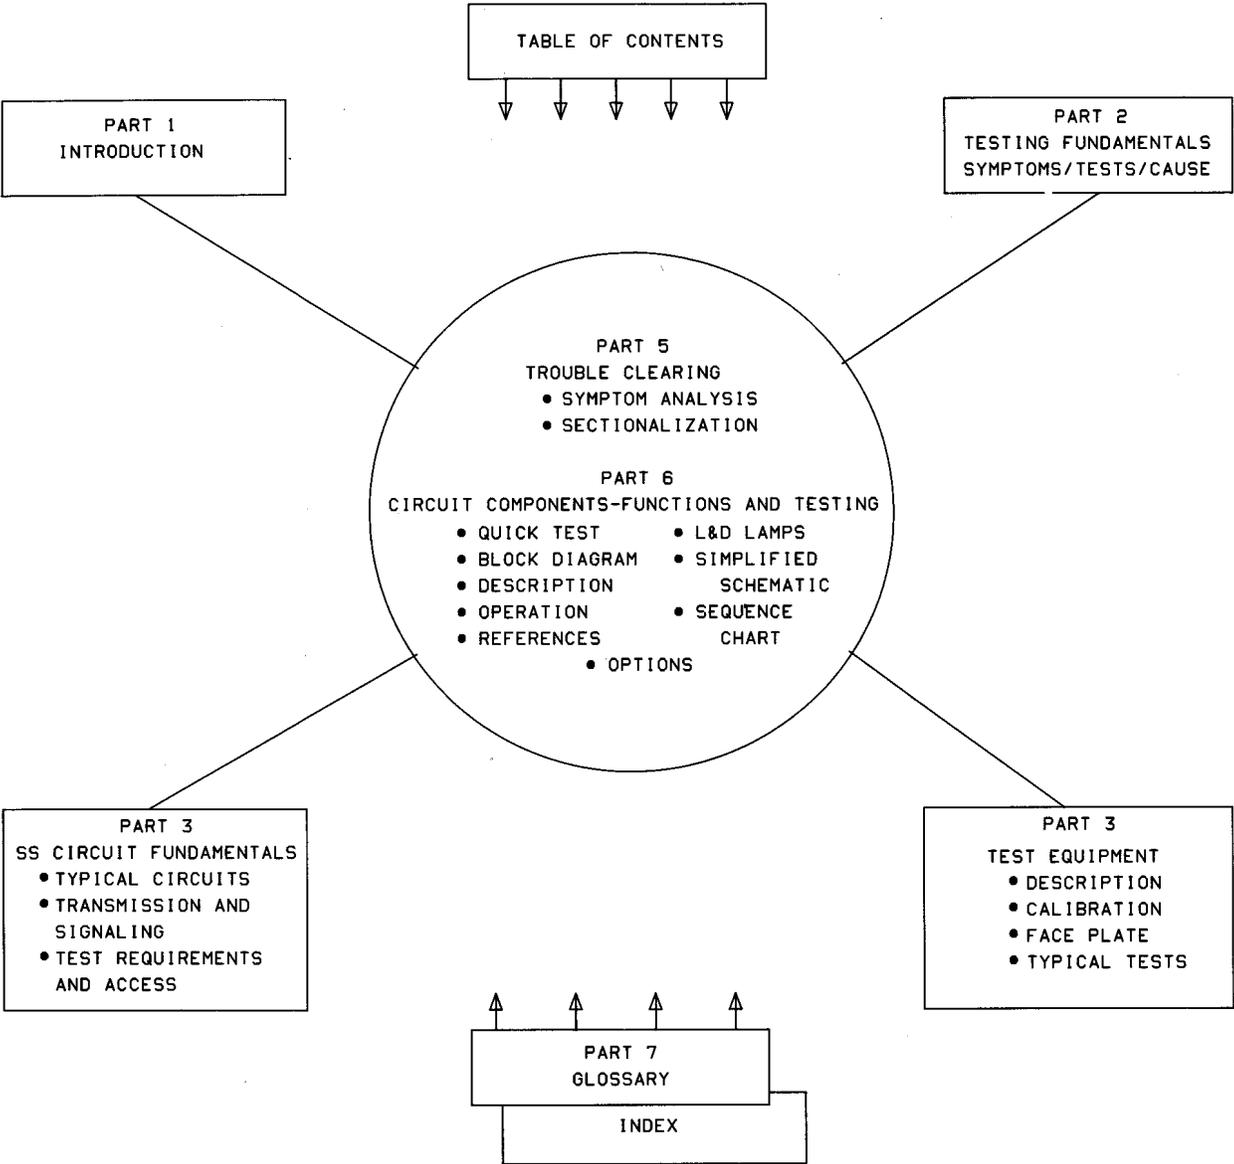

Fig. 1-1—Organization Chart
**1.14** The organizational chart in Fig. 1-1 serves as a quick explanation of the organization and contents of the SSCG. Note that Parts 5 and